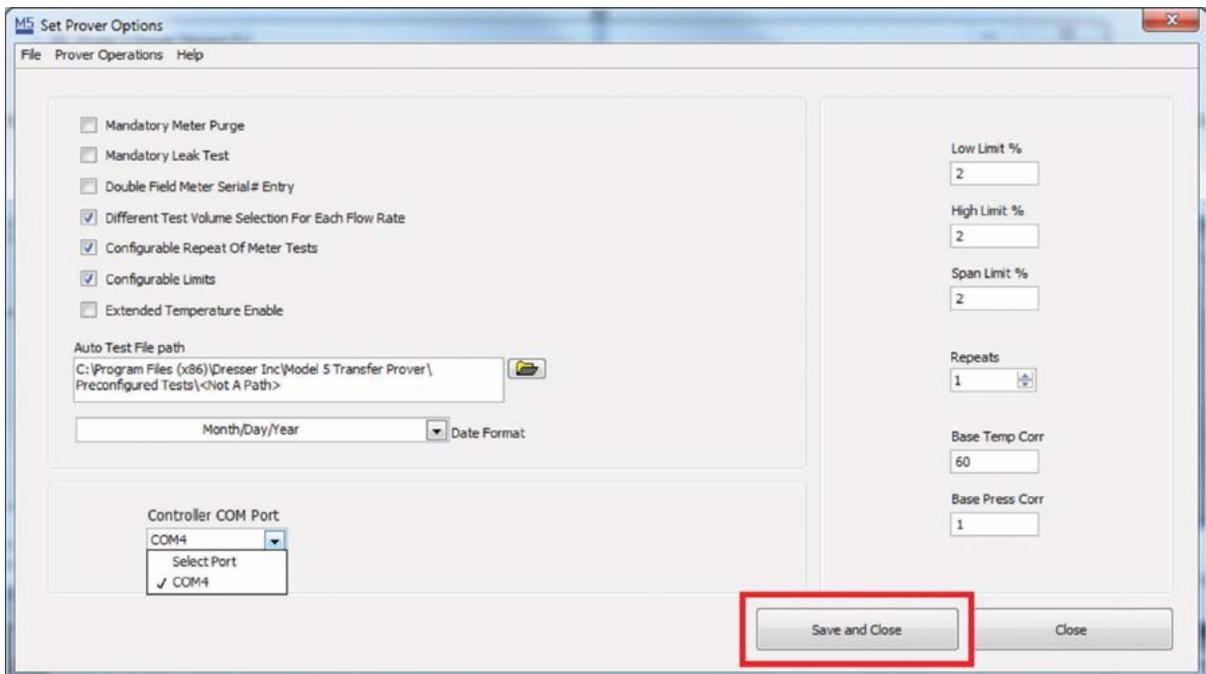

Figure 63: Save and Close
- Click "Save and Close" in the Set Prover Options window as shown in **Figure 63**. The Prover has now been successfully calibrated.